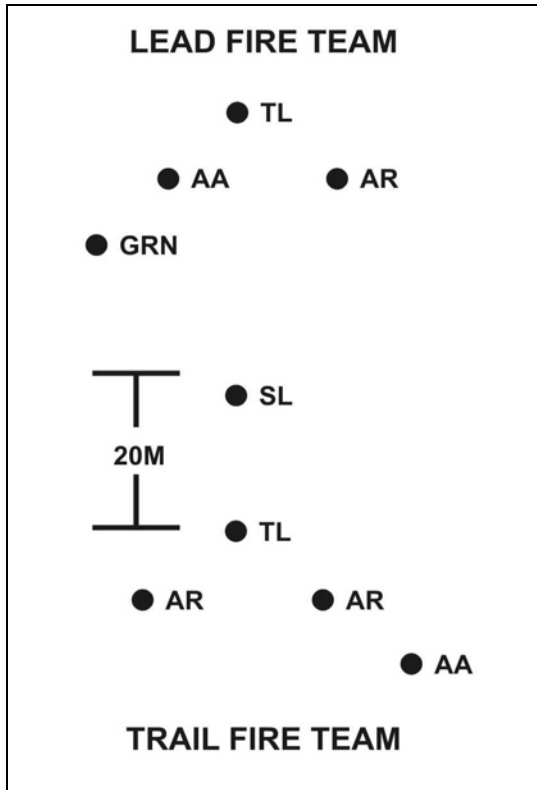

Figure F-11. Traveling movement technique.
(1) ***Traveling.*** The squad or platoon uses *traveling* (Figure F-11, page F-9) when contact with the enemy is not likely and they need speed.